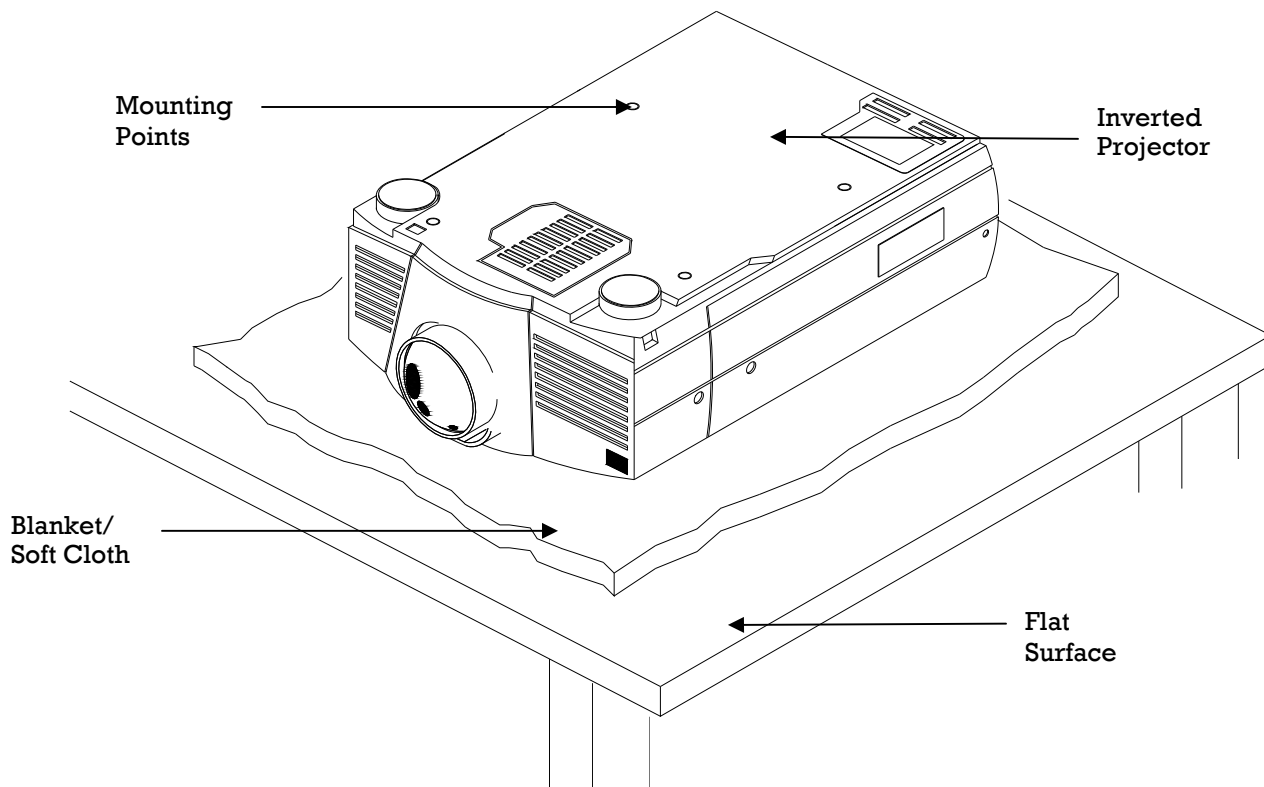

Figure 1. Projector Preparation
- Step 2. Most projectors have either three or four mounting points and are M4, M5, or M6 in thread size (Figure 1).